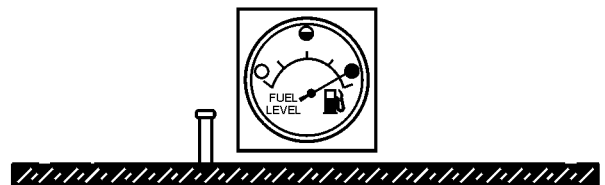

Figure 32. Full Fuel Tank
3. **NEVER overfill fuel tank** — It is important to read the fuel gauge when filling trailer fuel tank. **DO NOT** wait for fuel to rise in filler neck (Figure 32).